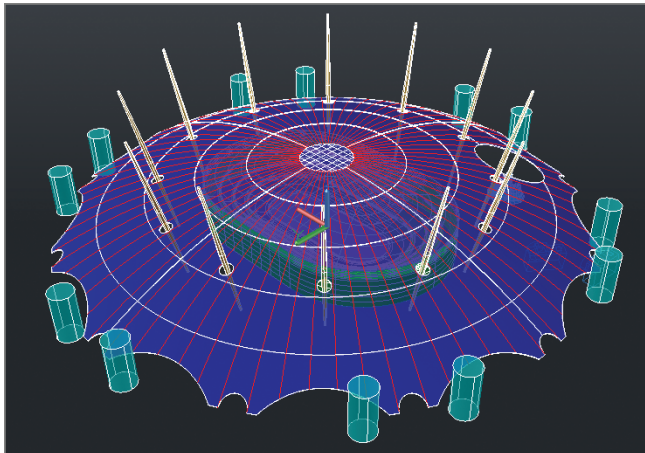

FIGURE 16.23 Perspective overview of the 3D model
4. Click the upper-left corner of the left face of the ViewCube to switch to the NW Isometric view. The model is still in perspective even after switching out of the Camera2 view (see Figure 16.23).